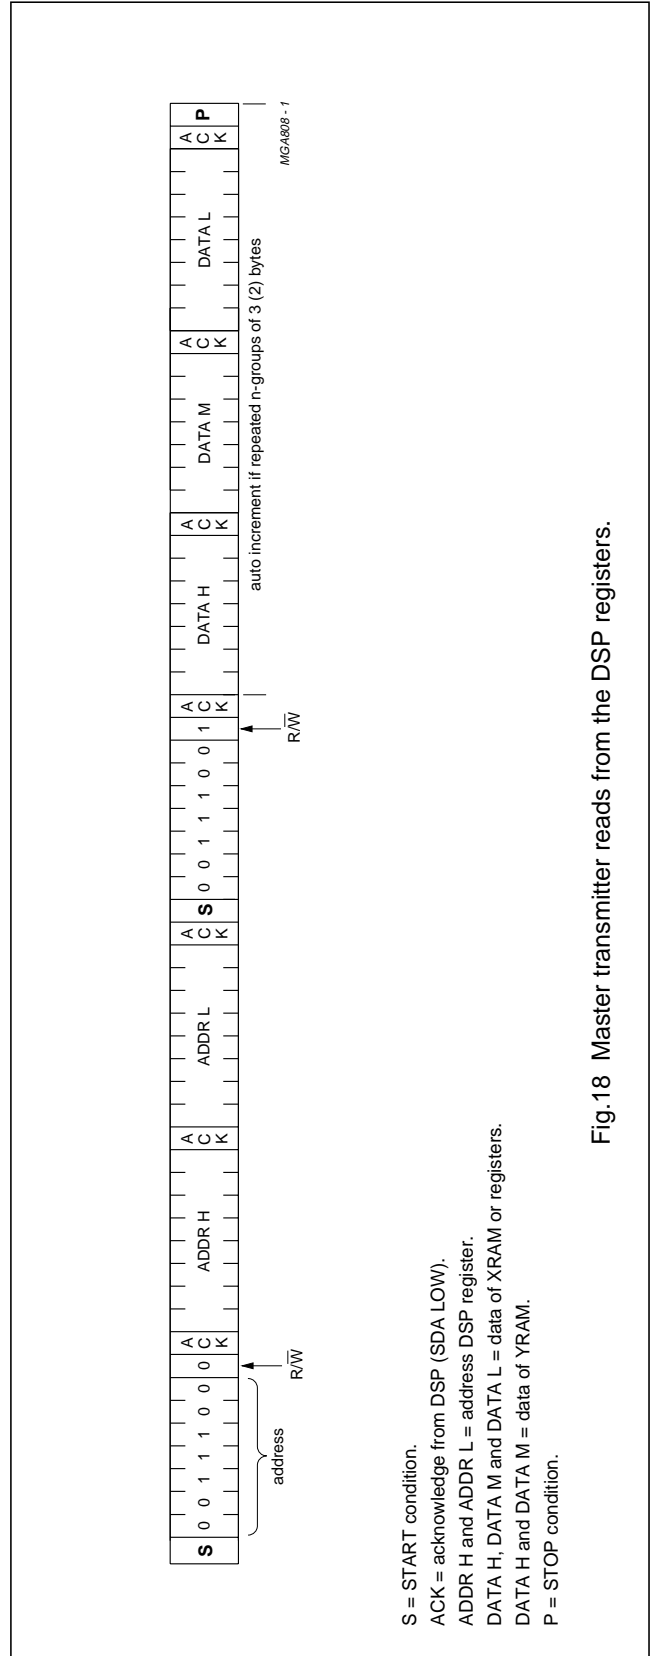

Fig.18 Master transmitter reads from the DSP registers.
The I2C-bus configuration for a read cycle is shown in Fig.18. The read cycle is used to read the data values from XRAM or YRAM. The master starts with a START condition (S), the DSP address '0011100' and a logic 0 (write) for the read/write bit. This is followed by an acknowledge of the SAA7705H. Then the master writes the high memory address (ADDR H) and low memory address (ADDR L) where the reading of the memory content of the SAA7705H must start. The SAA7705H acknowledges these addresses both.